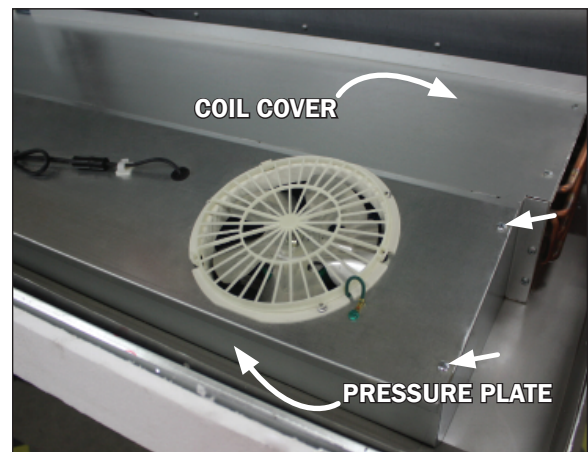
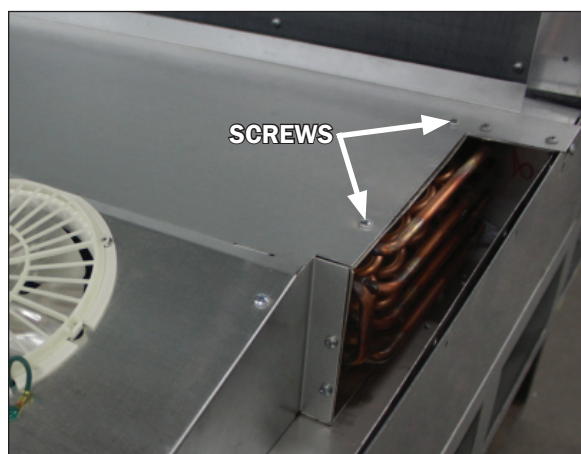

Fig. 21 Pressure plate, screw locations and coil cover (topside)
Fig. 24 Coil cover removal
2. To access the underside of the fans first remove the screws on the top ends and front sill of the pressure plate cover (Fig. 21). Lift the pressure plate by use of the
2. Remove the top two screws at both ends of the coil cover (Fig. 24), as well as the screws from the top ends and front sill of the pressure plate cover (Fig. 21). **Be sure to save the removed screws for reassembly.**